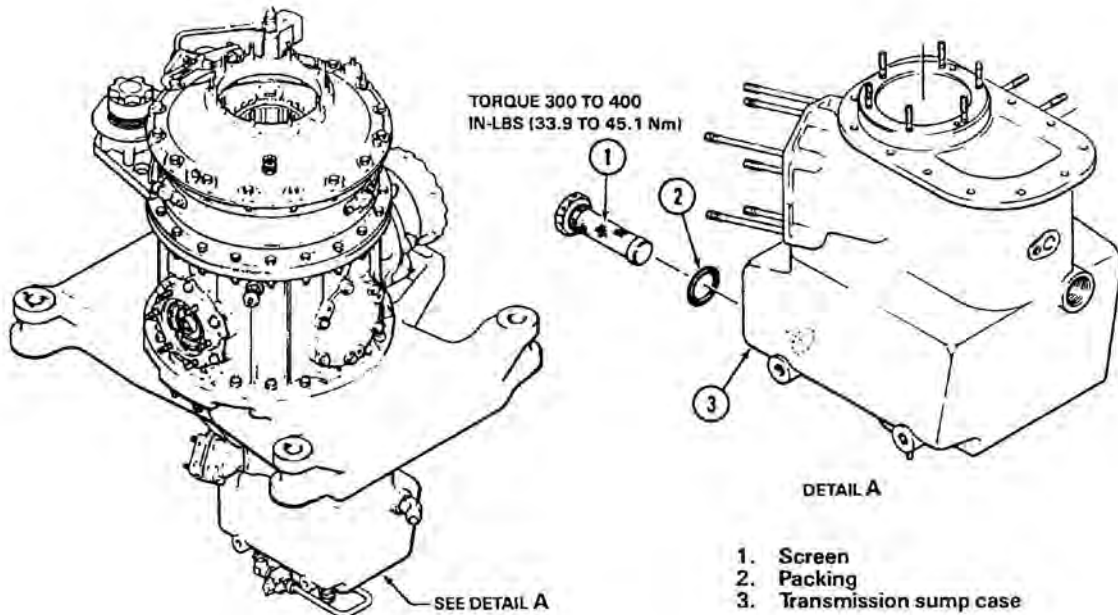

Figure 63-34. Transmission Oil Pump Screen
63.5.18.1.3 Remove lockwire and loosen plug below PUMP SCREEN marking. Remove screen (1, Figure 63-34) and packing (2). Discard packing.
63.5.18.3.1 Inspect screen (1, Figure 63-34) for metal particles. If metal particles are present, refer to paragraph 63.1.2.